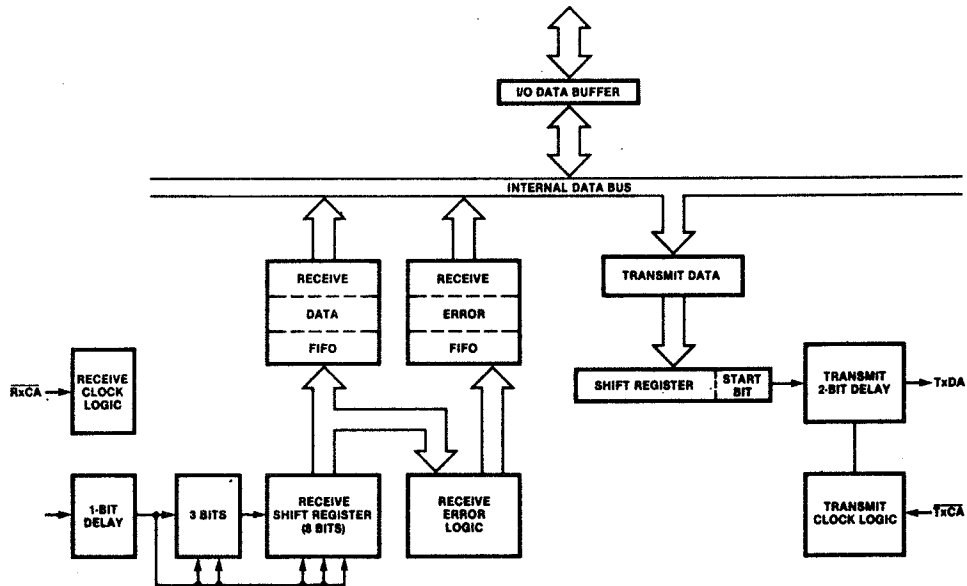

Figure 4. Data Path
**Data Path.** The transmit and receive data path illustrated for Channel A in Figure 4 is identical for both channels. The receiver has three 8-bit buffer registers in a FIFO arrangement in addition to the 8-bit receive shift register. This scheme creates additional time for the CPU to
**Write Registers.** The Z-80 DART contains six registers (WR0-WR5) in each channel that are programmed separately by the system program to configure the functional personality of the channels (Figure 4). With the exception of WR0, programming the write registers requires two bytes. The first byte contains three bits ( $D_0$ - $D_2$ ) that point to the selected register; the second byte is the actual control word that is written into the register to configure the Z-80 DART.